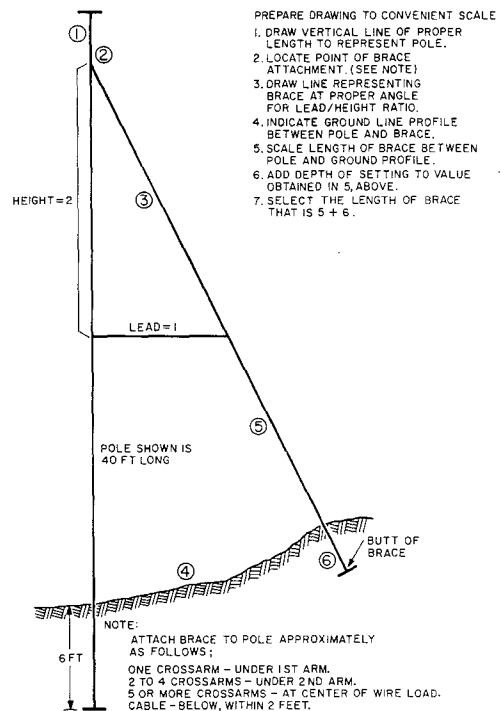

Fig. 1—Length of Pole Brace
1.04 The length of brace for a line pole is determined as shown in Fig. 1.